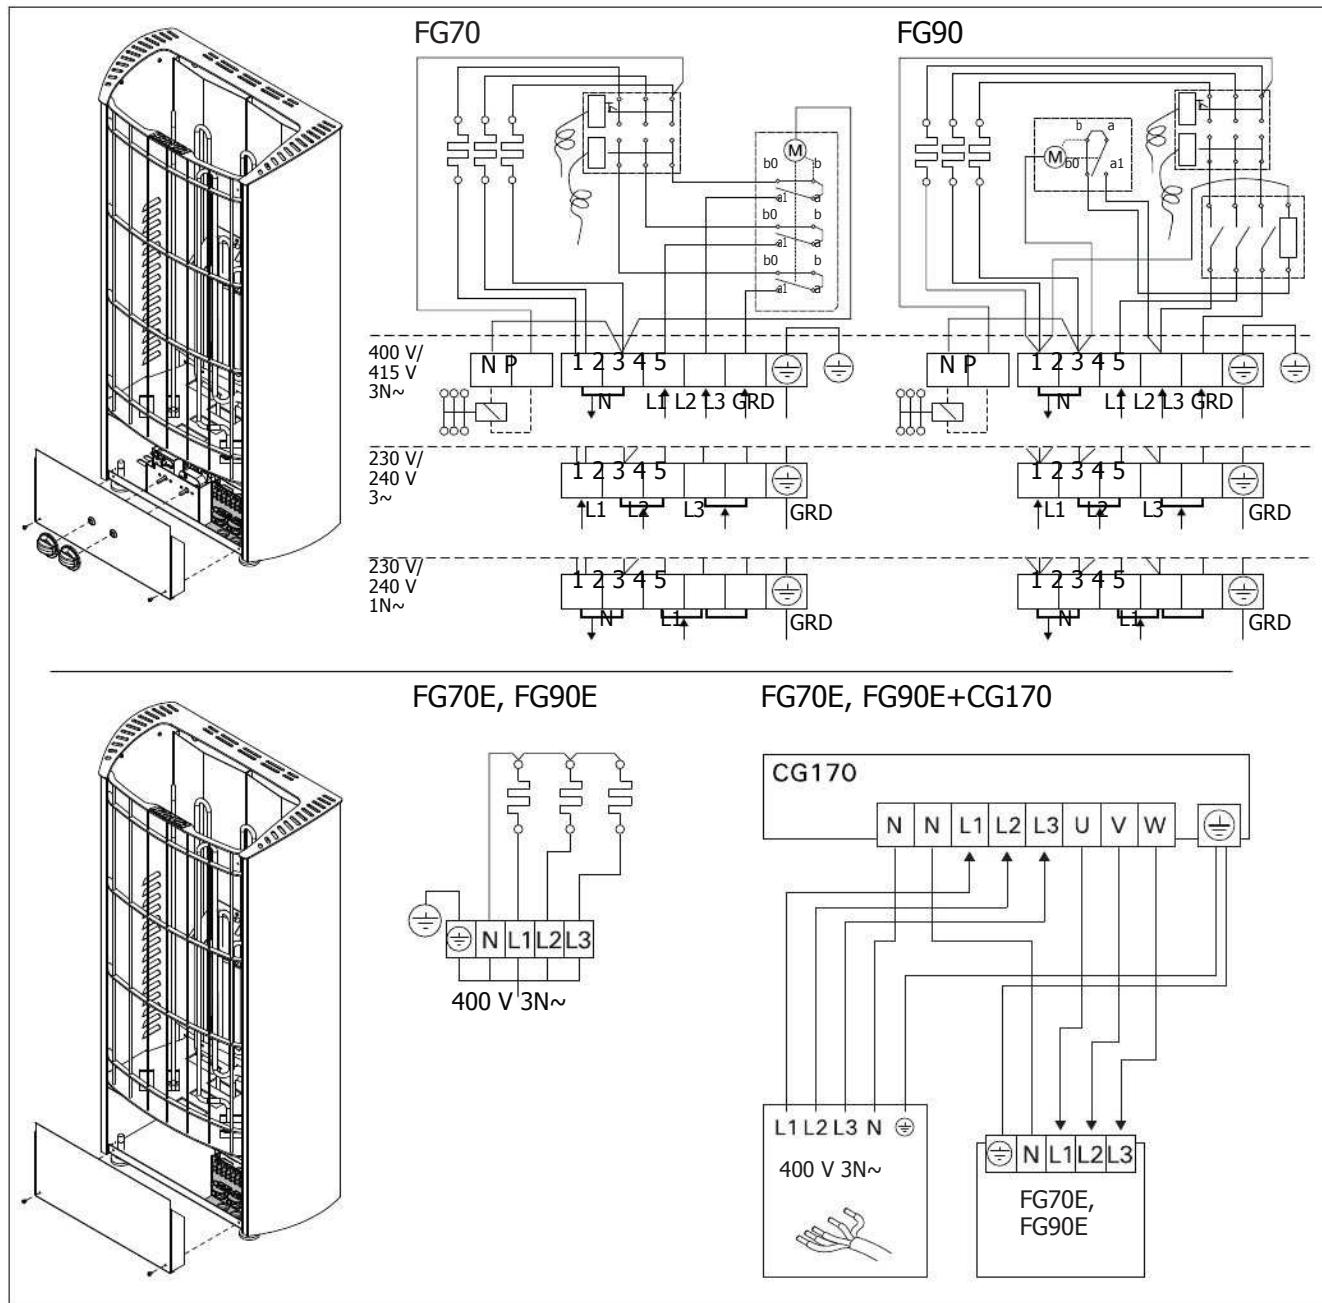

Figure 9. Electrical connections
- In addition to supply connectors, the FG heaters are equipped with a connector (P), which makes the control of the electric heating possible (figure 9). Voltage control is transmitted from the heater when it is switched on. The control cable for electrical heating is brought directly into the junction box of the heater, and from there to the terminal block of the heater along a rubber cable with the same cross-section area as that of the connecting cable.